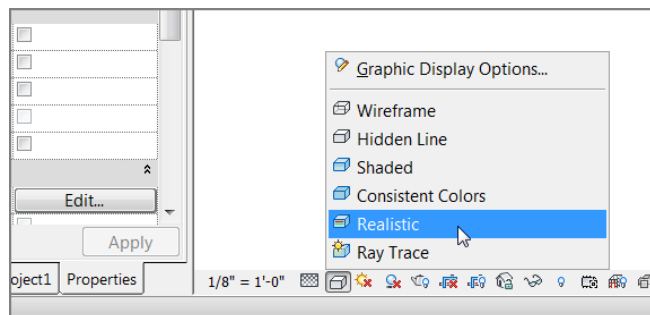

FIGURE 1.40: The Visual Style button enables you to view your model in color. This is typical for a 3D view.
2. On the View Control bar, click the Visual Style button and choose Realistic, as shown in Figure 1.40.